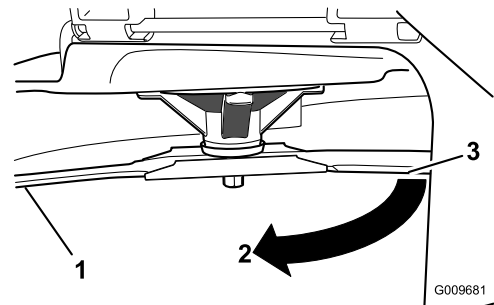

Figure 47
3. Measured distance between blade and the surface (A)
4. Rotate the same blade 180 degrees, so that the opposing cutting edge is now in the same position (Figure 47).